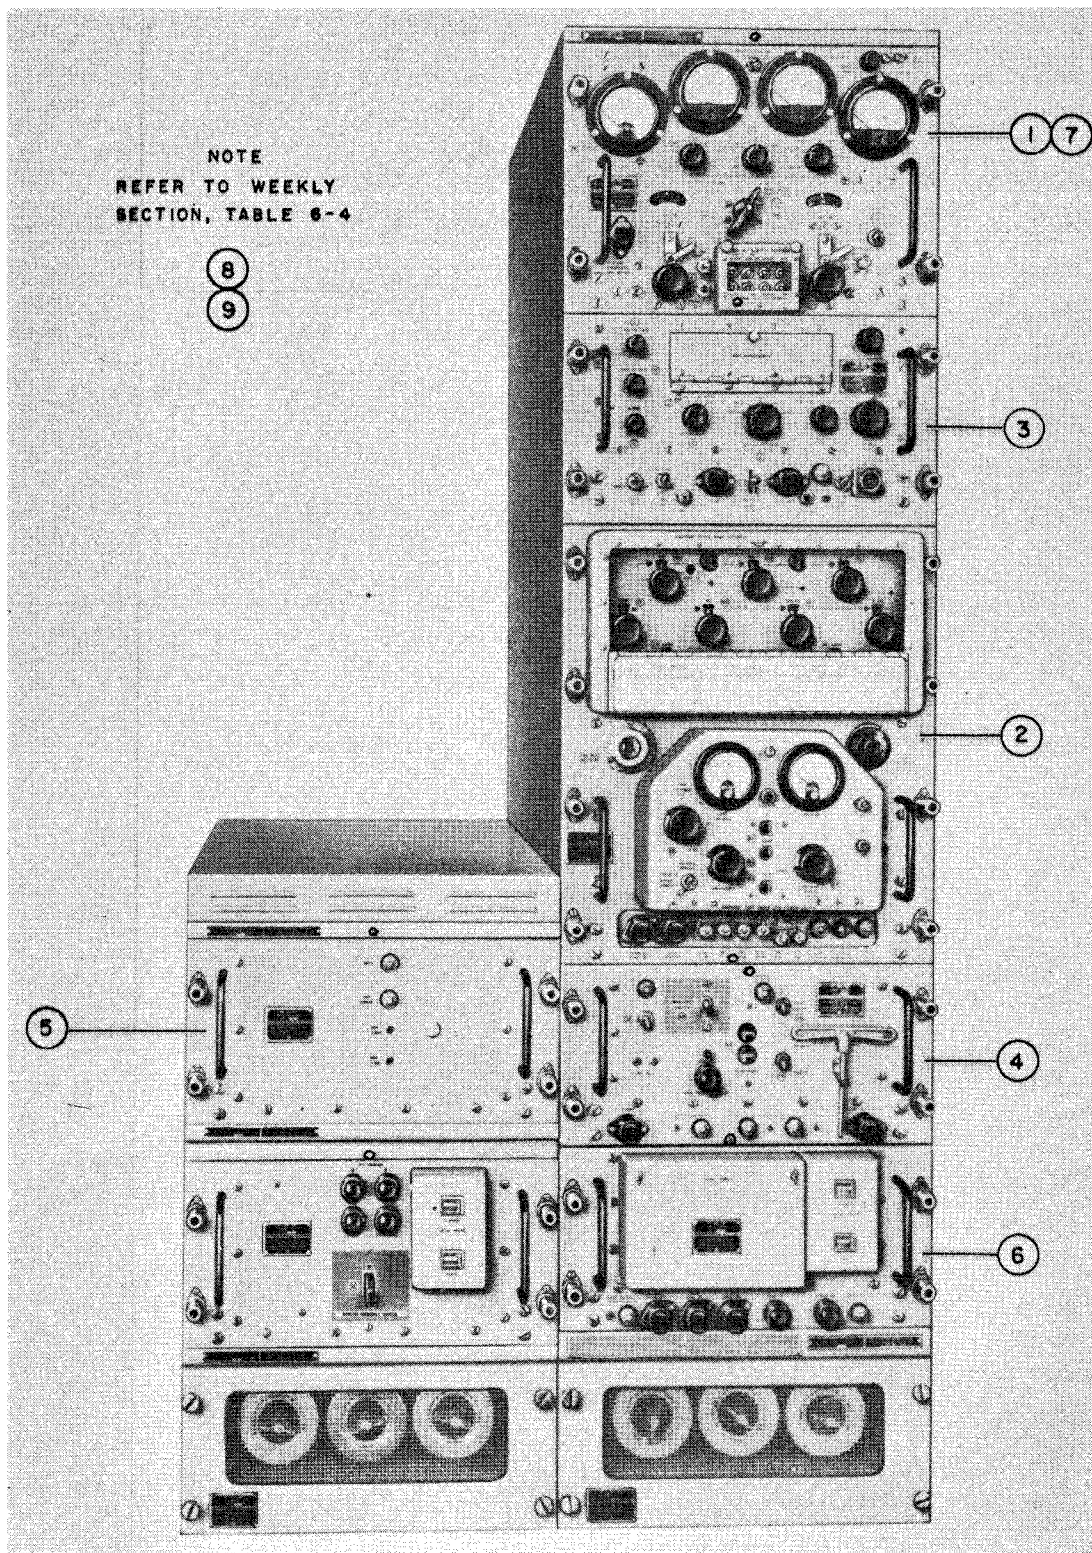
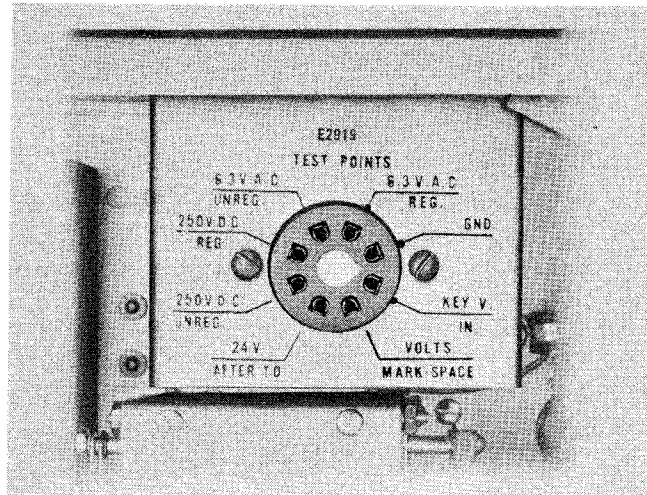

Figure 6-3. Weekly Routine Maintenance Checks, AN/SRT-15 Transmitter Bay
Figure 6-4. Radio Frequency Oscillator O-275/SRT (RFO), Metering Socket, E-2919
| 1. Radio Frequency Amplifier AM-1008/SRT (RFA) Meter Readings | WEEKLY (See 1, figure 6-3.) Note A form should be prepared to record the weekly meter readings. A comparison of the week-by-week readings will be useful for checking tube performance. | Refer to paragraph 4b, table 6-5, for typical example of form to be used. Table 6-2 gives typical RFA meter readings. |
| 2. Radio Frequency Oscillator O-275/SRT (RFO): Metering Socket, E-2919 | (See 2, figure 6-3.) Measure from each pin to pin 1 (GND.). These test points are found on the left side of the RFO, just forward of unit 8, under the cover plate. (See figure 6-4.) | Refer to paragraph 4c, table 6-6, RFO Metering Socket Voltages, for typical form to be used. |
| 3. Radio Modulator MD-229/SRT (LLRM) | (See 3, figure 6-3.) Check from test point (250 V.P.S.) on LLRM front panel to ground. | Refer to paragraph 4d, table 6-7, Front Panel Test Point Voltages. |
| 4. Power Supply PP-1094/SRT (LVPS) | (See 4, figure 6-3.) Check from test points to ground: a. +250 V b. +300 V c. -220 V | |
| 5. Radio Modulator MD-230/SRT (HLRM) | (See 5, figure 6-3.) Grid No. 1 - V-1601 Grid No. 1 - V-1602 | |
| 6. Power Supply PP-1095/SRT (MVPS) | (See 6, figure 6-3.) CAUTION 500 V OUTPUT Check from test jack to ground. | |
| 7. Modulation Check: (LLRM) | (See 7, figure 6-3.) Talk or whistle into the microphone. Observe the ANT CURRENT meter. | The ANT CURRENT meter will show an increase in antenna current with an increase in modulation. When the ANT CURRENT meter shows a decrease in antenna current with an increase in modulation, it is an indication of overmodulation. |
| | Step 2. Connect Multimeter ME-25A/U between pin 7 (VOLTS MARK-SPACE) of metering socket E-2919, and pin 1, GND. | The metering socket E-2919 is located on the left side of the RFO. (See figure 6-4.) |
c. RFO METERING SOCKET VOLTAGES, WEEKLY RECORD.—Table 6-6 is a chart which may be used to record the RFO weekly readings at the metering socket, E-2919. (See figure 6-4.)
| E-2919 PIN NO. (See figure 6-4.) | PIN DESIGNATIONS | DATE: | DATE: | DATE: |
| METERING SOCKET (See figure 6-4.) | SERVICE SELECTOR SWITCH ① | NOMINAL VOLTAGES | DATE: | DATE: | DATE: |